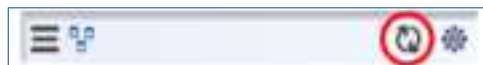

Figure 92: Apply Button Grey and Disabled
- When Auto Apply mode is enabled, the Apply button is greyed out and is disabled, as shown in Figure 92.